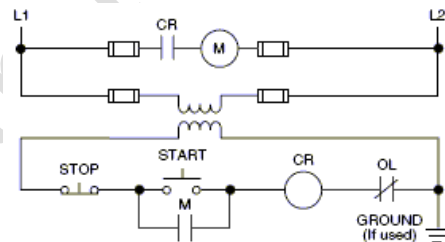

Fig. 22 Fused Control Circuit Transformer and Control Relay.
10. Fused Control Circuit Transformer and Control Relay (Fig.22)